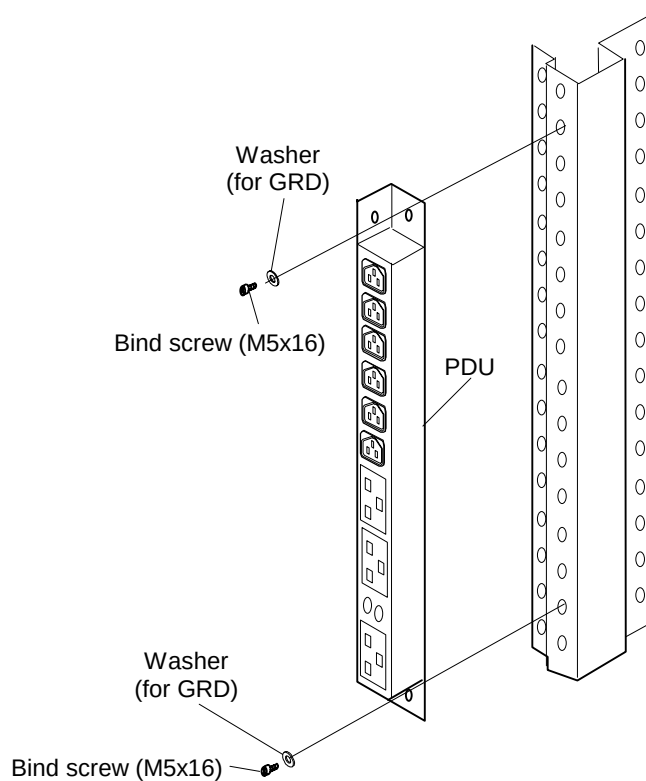

Figure 7.7.2 Installing the UPDU (Vertically)
- When installing the PDU vertically, fasten it with the M5×16 binding screws and the washers using the screw holes on the rack frame (see Figure 7.7.2).